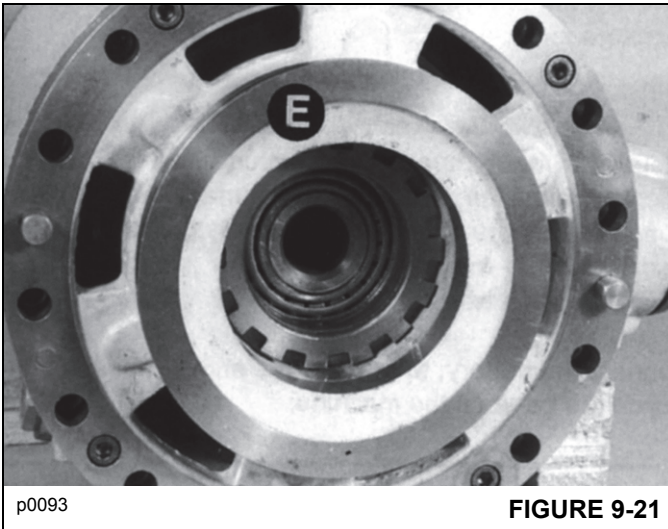

FIGURE 9-21
2. Carefully press piston **E** Figure 9-21 all the way into its housing.